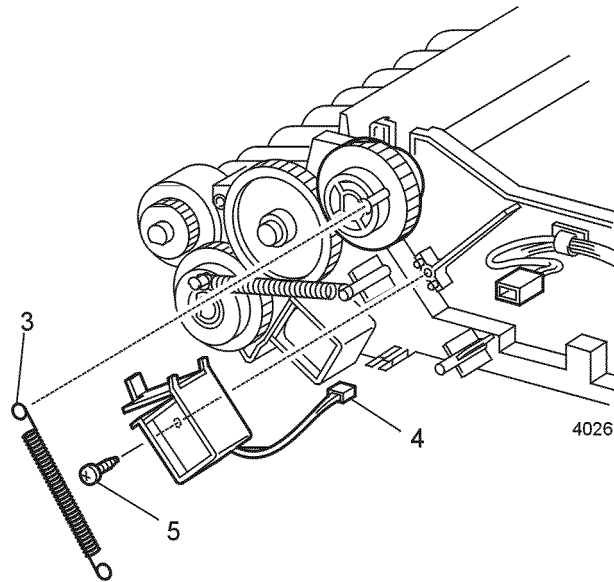

Figure 1 MBF Feed Solenoid
3. Remove the Pick-up Spring from the MBF Pick-up Gear (Figure 1).
4. Disconnect P/J123 from the MBF Feed Solenoid (Figure 1).
5. Remove the screw that secures the MBF Feed Solenoid to the MBF Assembly (Figure 1).